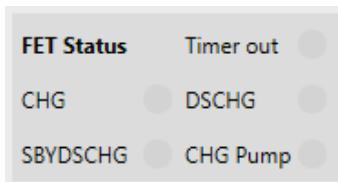

Figure 38: FET Status Monitor
6. Monitor the MOSFET statuses (see Figure 38 on page 23).